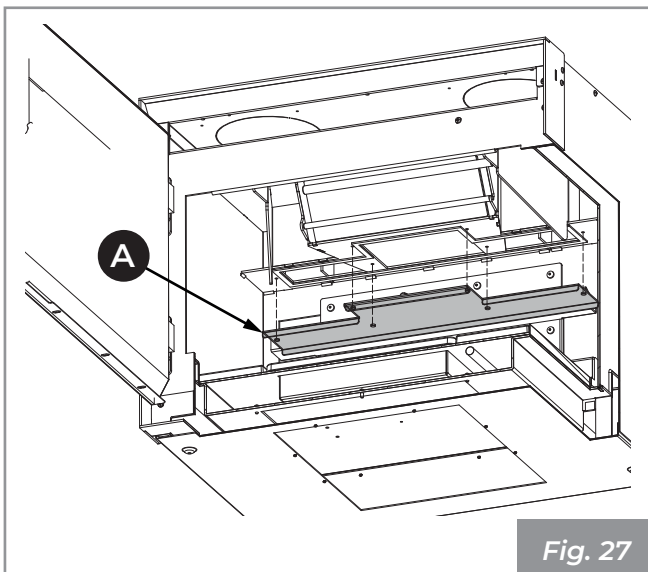

Fig. 27
Remove the flue manifold cap (A) (Fig. 27).